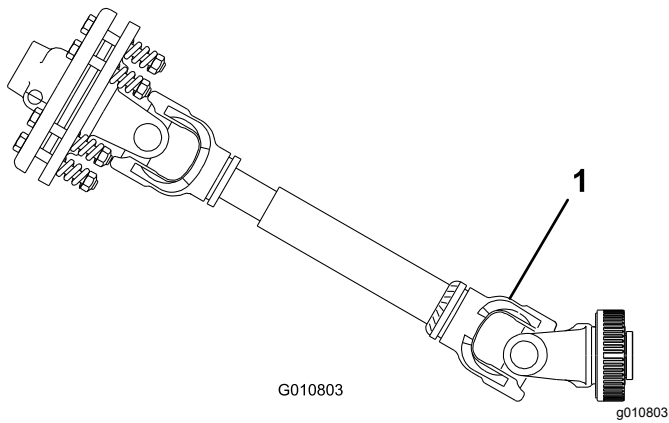

Figure 10
**Important:** When connecting the PTO, be sure that the aerator is not being lifted higher than is necessary. Lifting the machine too high will cause the PTO shaft knuckles to break (Figure 10). Do not leave the PTO turning when the aerator is raised. You can operate the PTO up to an angle of 25°, but do not exceed a 35° angle when the aerator is at its highest position; otherwise, severe shaft damage may occur.